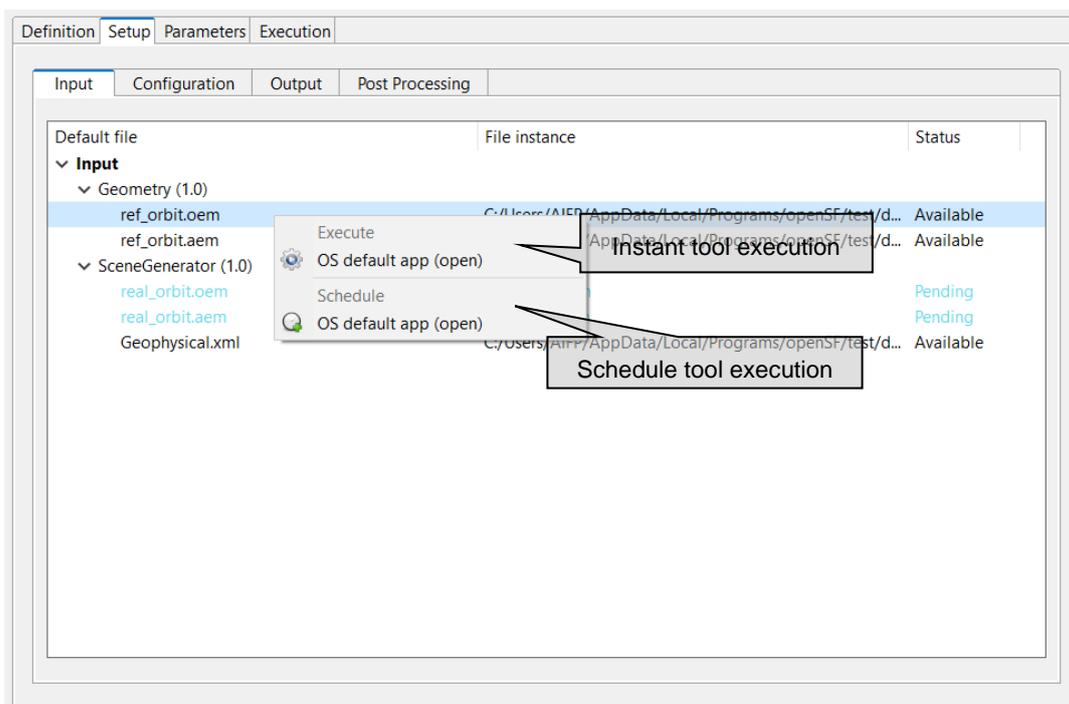

Figure 4-61: Tool Execution/Schedule from Simulation Edition View
- ❑ Tool execution from the simulation edit view and execution results view (see Figure 4-61). The execution view is the same as the simulation view with two particularities, 'Results' tab is enabled and the status is completed (successfully or not). Note that in the execution view the status of the output files is shown as Available if the simulation chain has been successfully executed while in the simulation editing the status is shown as Pending (see Section 4.3.3.6.2).